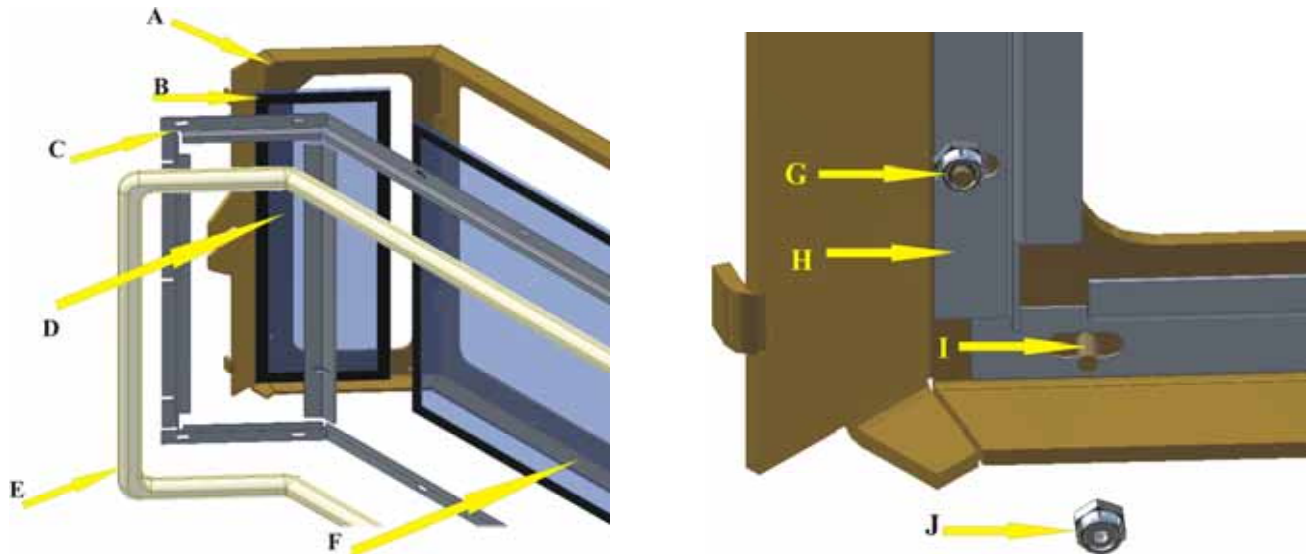

FIGURE 22: GLASS REPLACEMENT
4. From the inside of the door remove the door rope gasket, FIGURE 22, left view, Item E. Undo twenty #6 nuts and four #10/32 screws, FIGURE 22, right view, Item J that holds glass retainer strips in place. Store all loose parts in a safe location as they will be required during reinstallation. Remove the glass retainers, FIGURE 22, right view, Item I. **WARNING:** Broken glass is extremely sharp. Use extreme caution. Use leather gloves and wear safety glasses when removing broken glass.
6. Position and install the three glass panels, FIGURE 22, left view, Item D and Item F in the doorframe. The third glass panel is not shown in FIGURE 22. All glass comes pre-taped with fiberglass insulation, FIGURE 22, left view, Item B.
7. Set glass retainers, FIGURE 22, right view, Item H in place over the glass. Reinstall twenty #6 nuts and four #10/32 screws, FIGURE 22, right view, Item J onto Item I to hold retainers in place. DO NOT over tighten.
8. Install door rope gasket, FIGURE 22, left view, Item F, using small amount of rope cement to hold rope gasket in place.